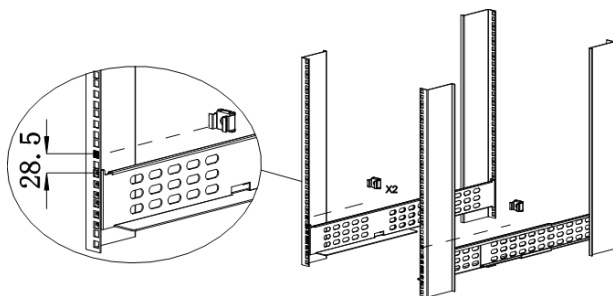
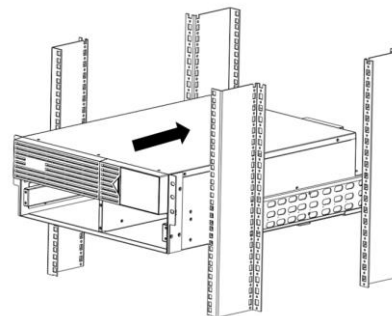

Figure 5
Figure 6
5. Locate and attach the rack/cabinet mounting rails (Fig. 5). Rest the UPS on the front of the rack/cabinet mounting rails. Slide the UPS into the rack until the ears contact the front posts and anchor the unit using the included mounting screws. (Fig. 6)